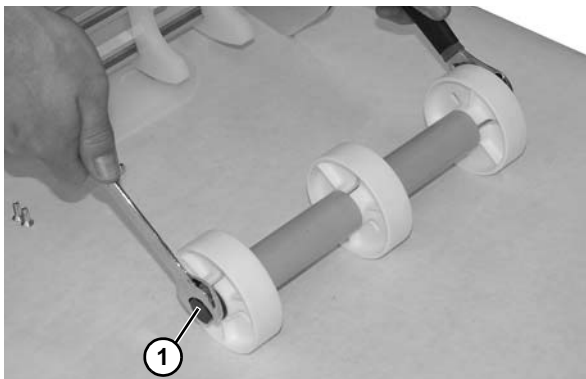

Figure 116
13. Use wrenches to remove both bolts (**Figure 116, item 1**) from each side of roller assembly.